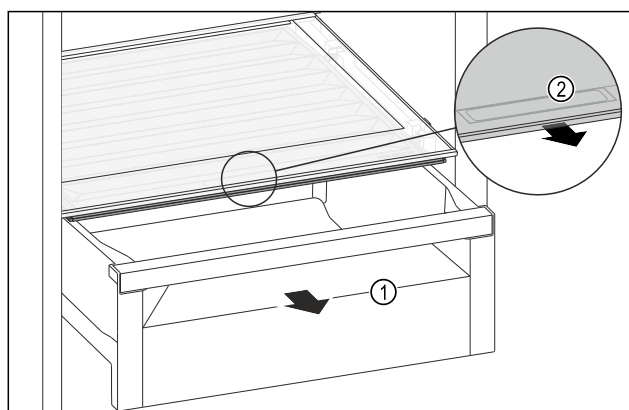

Fig. 110
- Pull out the drawer Fig. 110 (1).
- Grasp the recessed grip Fig. 110 (2) on the compartment lid and pull the compartment lid forwards at the same time.